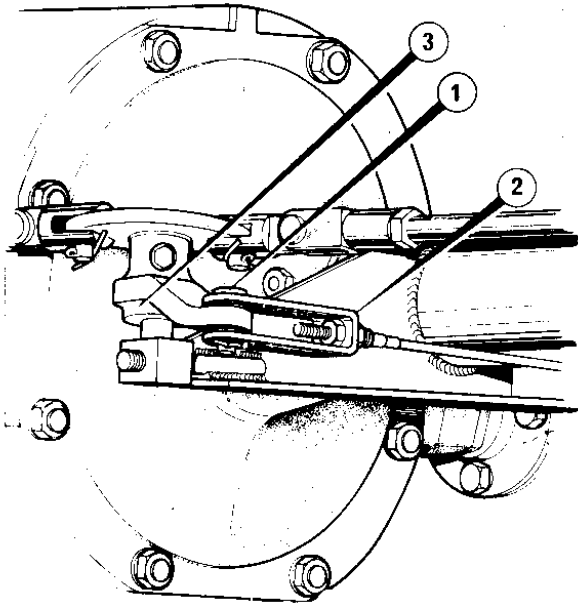

Figure 3 Handbrake compensator
2. Remove the split pin from the clevis pin (Figure 3) at the rear of the brake cable. Adjustment is achieved by means of the clevis on the end of the adjuster screw. Adjust until the clevis pin slides easily in to the clevis and balance lever.